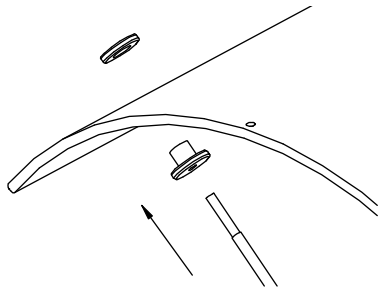

Figure 12
- A. Assemble the lens bracket on all four corners of the lens as shown. (Fig. 12)